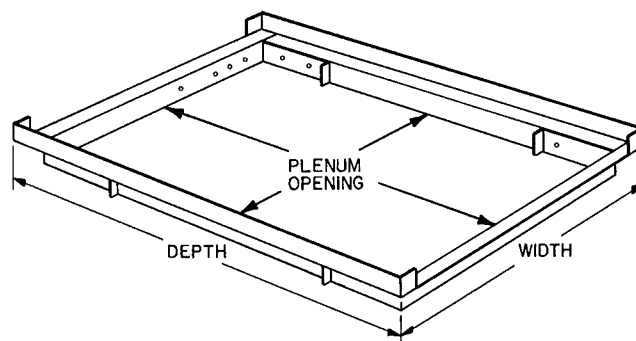

Fig. 5 — Combustible Floor Base
- Read Installation Instructions packaged with combustible floor base. See Fig. 5.